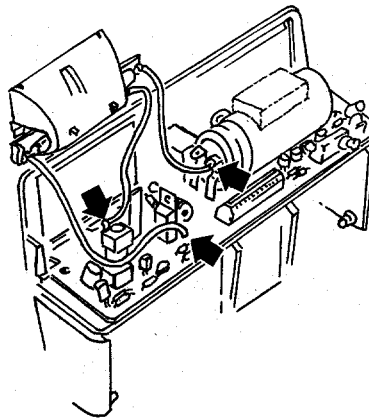

Fig. 6 Removing Flashtube by unsoldering wire leads
6. If it is necessary to remove the Flashtube itself, unsolder the three leads from the Capacitor, PC Board and Trigger Coil (Fig. 6).